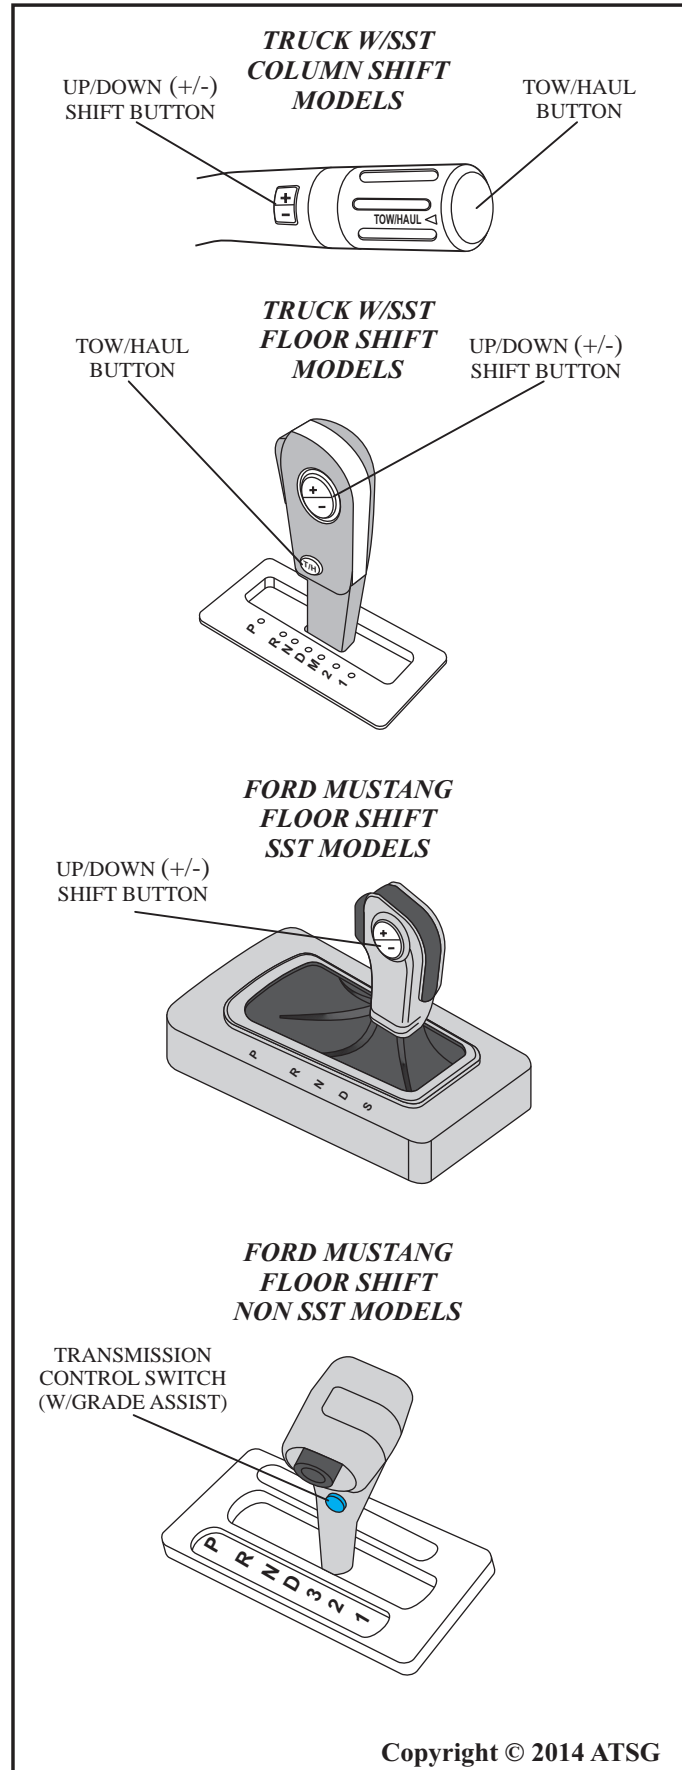

Figure 10
Progressive Range Selection (PRS) mode is currently available in F150 models. With the gear select lever in the D position, depress the (-) button in the shifter handle in the D position to activate PRS mode. Refer to Figure 10 for button location in both column shift and floor shift models. After PRS mode has been activated, all available gears will be displayed with the current gear illuminated and displayed in the instrument cluster. Depress the (-) button again and the PCM will lock out gears beginning with the highest gear (6th) gear, i.e. press the (-) button twice and 6th gear and 5th gear will be locked out. Now only the available gears will be displayed and the transmission will automatically shift between the available gears that are not locked out. Depressing the (+) button will unlock gears thereby allowing the transmission to shift up into higher gears that had been previously locked out. Again, the transmission will be automatically shifted within the gear range that has not been locked out.
The Manual (M) Range is currently available in the F150 (both column and floor shift models) and the Mustang. When the gear select lever has been placed into the M position (F150 models) or the S position (Mustang) models (refer to Figure 3) the driver will now have the capability of controlling the shift timing of the transmission by depressing the (+) button for shifting up or the (-) button for shifting down. Refer to Figure 10 for a diagram and description of the column and floor shifters. Only the current gear will be illuminated in the instrument cluster. While driving in the M mode, if the (-) button is depressed at such a speed that would cause too much overspeed, the requested gear will flash then disappear and the transmission will remain in the current gear. In order to prevent engine stall from running at too low an RPM, the PCM SST mode will automatically perform downshifts if it is determined a downshift request has not been performed in time.
The Tow/Haul Switch is a momentary contact switch that is located either in the end of the shifter handle for column shifter models or on the selector lever for console shifter models as shown in Figure 10. Tow/Haul (OFF) feature is the normal driving position for maximum fuel economy. Tow/Haul (ON) feature improves transmission shifting operation when towing a trailer, or carrying heavy loads. In order to activate the Tow/Haul feature, depress the button of the Tow/Haul switch. With this feature enabled the Tow/Haul icon in the instrument panel will be illuminated and upshifts will be delayed, meaning